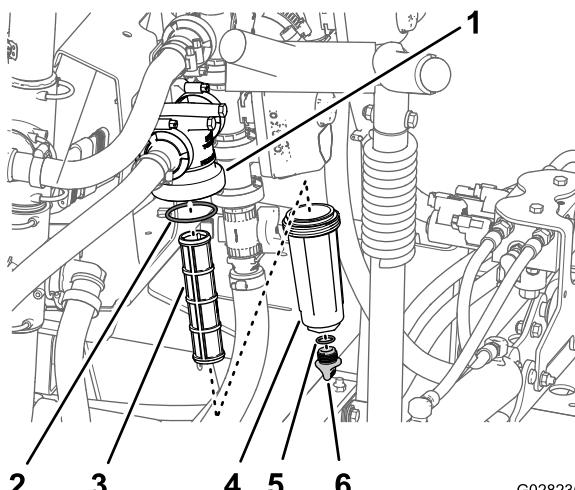

Figure 51
2. Align a drain pan under the pressure filter (Figure 51).
3. Rotate the drain cap counterclockwise and remove it from the bowl of the pressure filter (Figure 51).
4. Rotate the bowl counterclockwise and remove the filter head (Figure 51).
5. Remove the pressure filter element (Figure 51).
inside the filter head) for damage and wear (Figure 51).
8. Install the pressure filter element into the filter head (Figure 51).
9. Install the bowl onto the filter head, and tighten by hand (Figure 51).
10. Assemble the drain cap onto the fitting at the bottom of the bowl, and tighten the cap by hand (Figure 51).